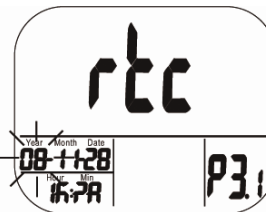

Fig. 14: Setting the year
- Press SET to enter P 3.1 mode. Current year will blink (Fig. 14). To change the month, press LOG/▲ or MIN/MAX▼.